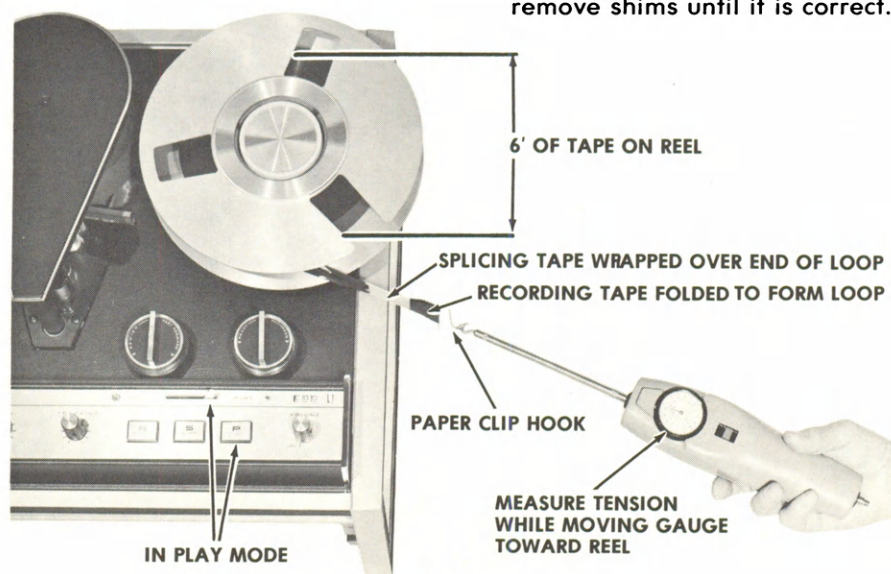
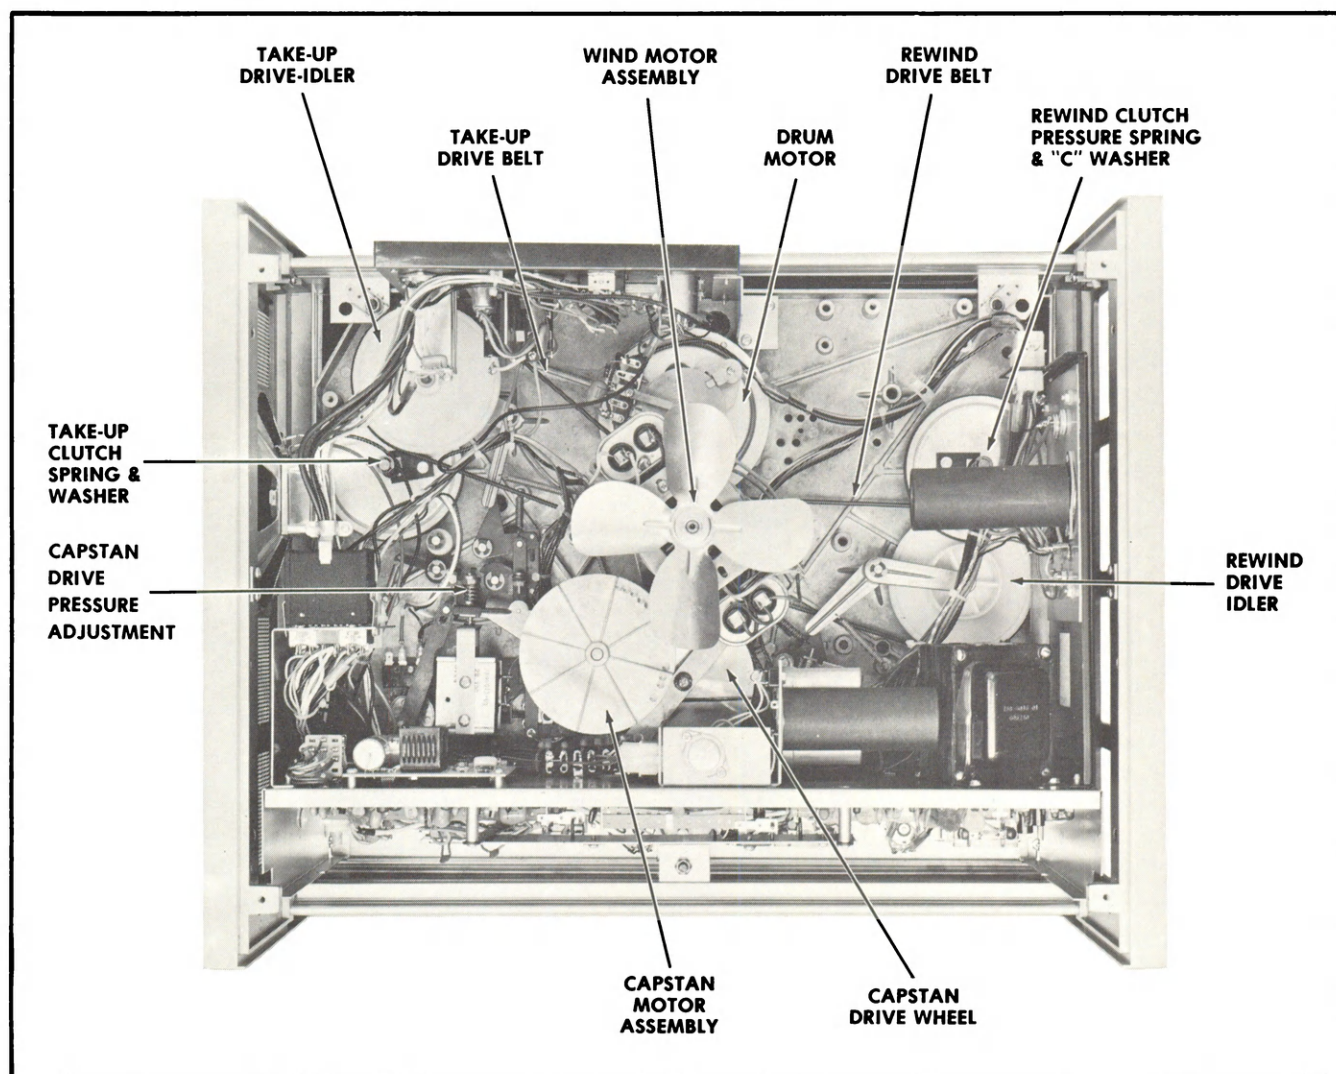
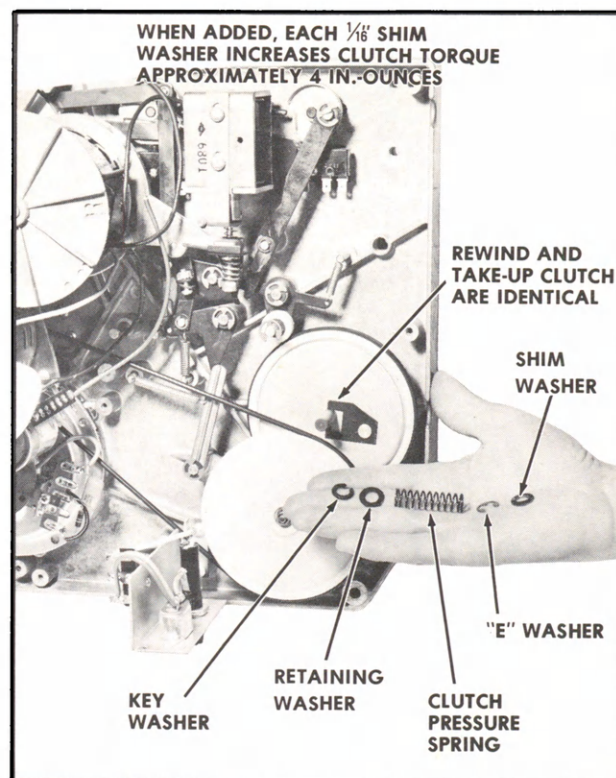

Figure 5-3. Take-up Torque
Figure 5-7. Location of Parts
Figure 5-8. Clutch Adjustment
3. Connect a spring gauge, capacity 0 to 30 oz. to the tape on the take-up reel. Fold tape end over and secure with splicing tape as shown in Figure 5-3.
5. If the take-up torque is low or erratic, check for drive tire slip. To perform this check, place the recorder in the PLAY mode and stop the take-up turntable from rotating. The take-up reel drive tire should continue to rotate with all slippage occurring in the clutch. (See Figure 5-7). If the slippage does not occur in the clutch, clean the tire surface and the take-up drive idler (delrin part) with alcohol. Recheck drive tire slip. If the drive tire is not slipping and the take-up torque is low, remove the "C" ring and spring (Figure 5-8). Place another shim on the clutch plate, replace spring, "C" ring and check tension. If low tension persists, add another shim. If tension is abnormally high, remove shims until it is correct.
When the recorder is in the rewind mode, the rewind torque measured on the supply reel should be between 55 and 70 in./oz. Make measurement and adjustment in the same manner as take-up torque (Figure 5-3) with the recorder in the REWIND mode. A 6" diameter tape pack, should give an 18.3 to 23.3 oz. torque. Add or subtract shims from the clutch plate (Figure 5-8) to correct. If torque is low or erratic, check for drive tire slip as described for the take-up drive.